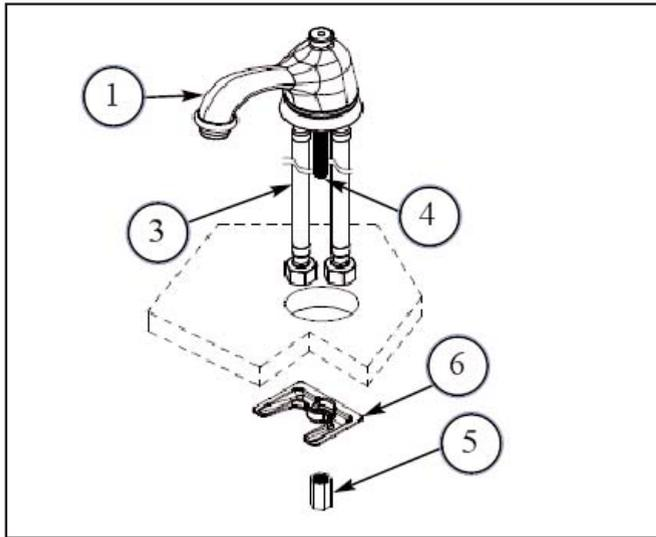

Figure 1
1. Insert HOSES (3) and MOUNTING STUD (4) through ESCUTCHEON (2) and sink hole, (apply putty or silicone to underside of ESCUTCHEON (2) ). Align SPOUT (1) and secure into place with MOUNTING BRACKET (6) and NUT (5). See Figure 1.